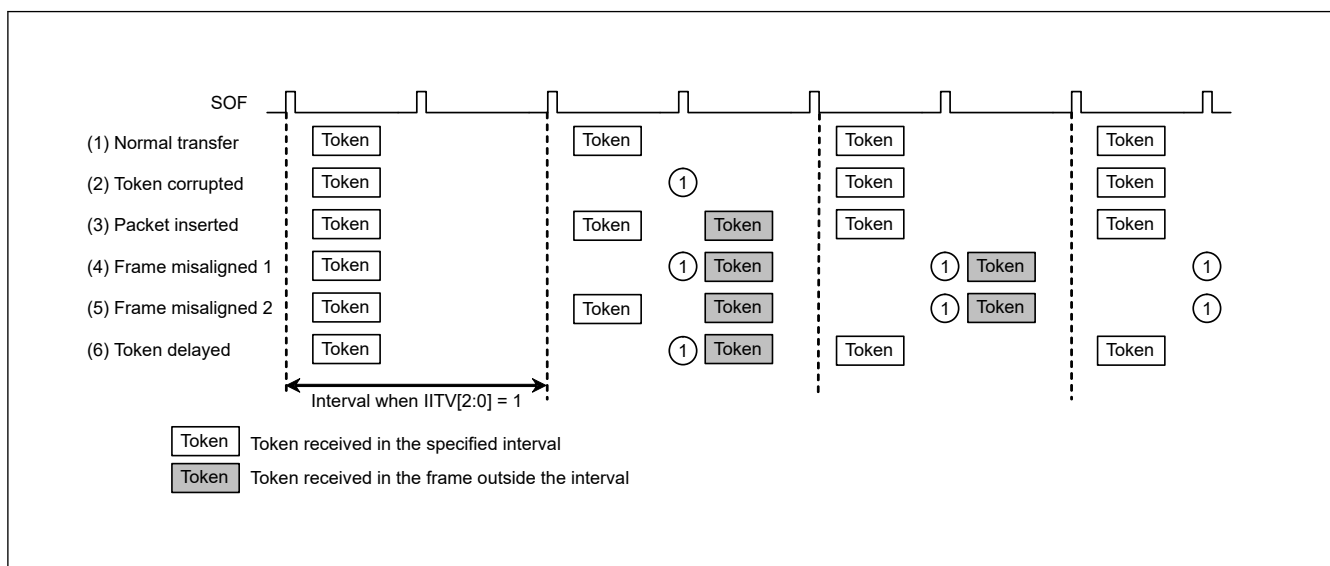

Figure 38.18 Example interval error occurrence when PIPEPERI.IITV[2:0] = 1
Figure 38.18 shows an example interval error occurrence. There are five types of interval errors, as shown in the figure. An interval error occurs at timing ①, and the buffer flush function is activated.